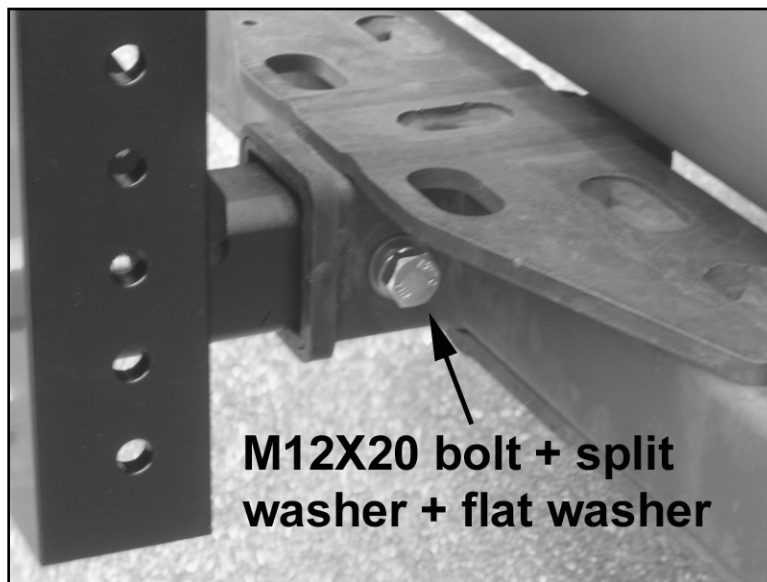

Figure 8: Safety bolt assembly.
- 5 Secure safety bolts.** Take the M12X20 hex bolt and put the flat washer on the bolt and then the split washer. Insert the bolt into the holes on the side of the hitch receiver and tighten securely (Figure 8). This is a safety precaution and will prevent the hitch mount from loosening and falling out of the receiver. Do the same on the other side of the receiver.